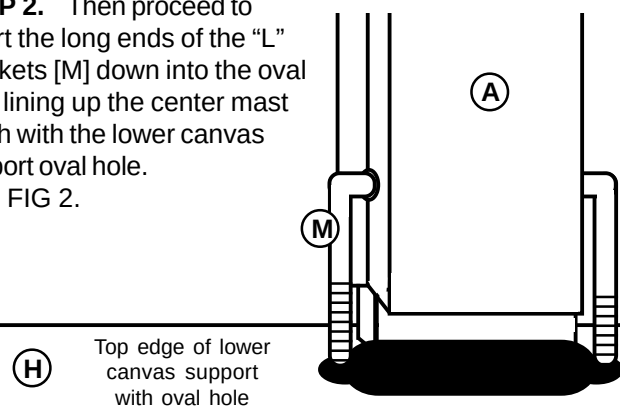

FIG 2
STEP 2. Then proceed to insert the long ends of the "L" brackets [M] down into the oval hole lining up the center mast notch with the lower canvas support oval hole. SEE FIG 2.